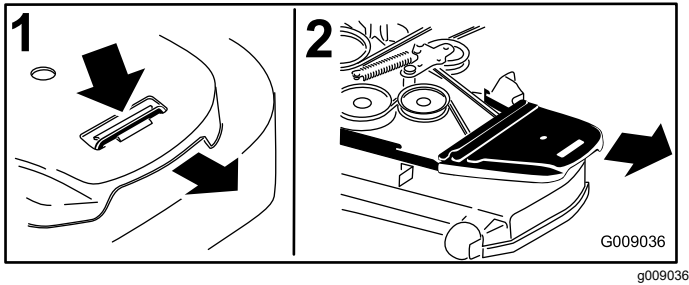

Figure 2
2. Remove the right belt cover (Figure 2).